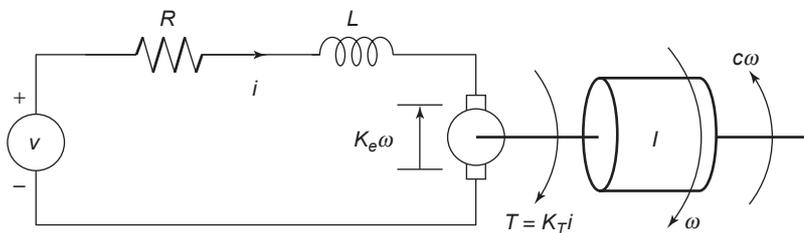

Figure P13
13. The equations for the armature-controlled dc motor shown in Figure P13 follow. The motor's current is  $i$ , and its rotational velocity is  $\omega$ .